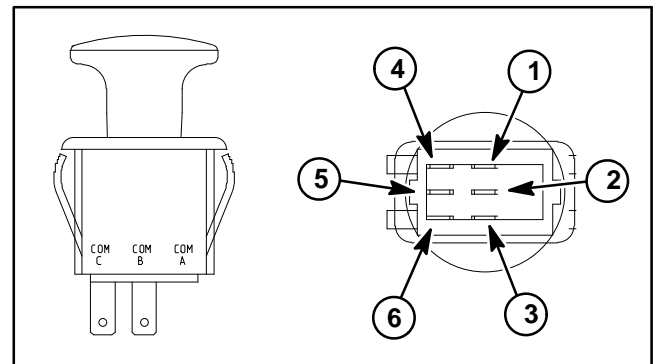

Figure 34
5. The PTO switch terminals are identified in Figure 34 and the circuitry of the PTO switch is shown in Figure 35. With the use of a multimeter (ohms setting), the switch functions may be tested to determine whether continuity exists between the various terminals for each switch position. Verify continuity between switch terminals.